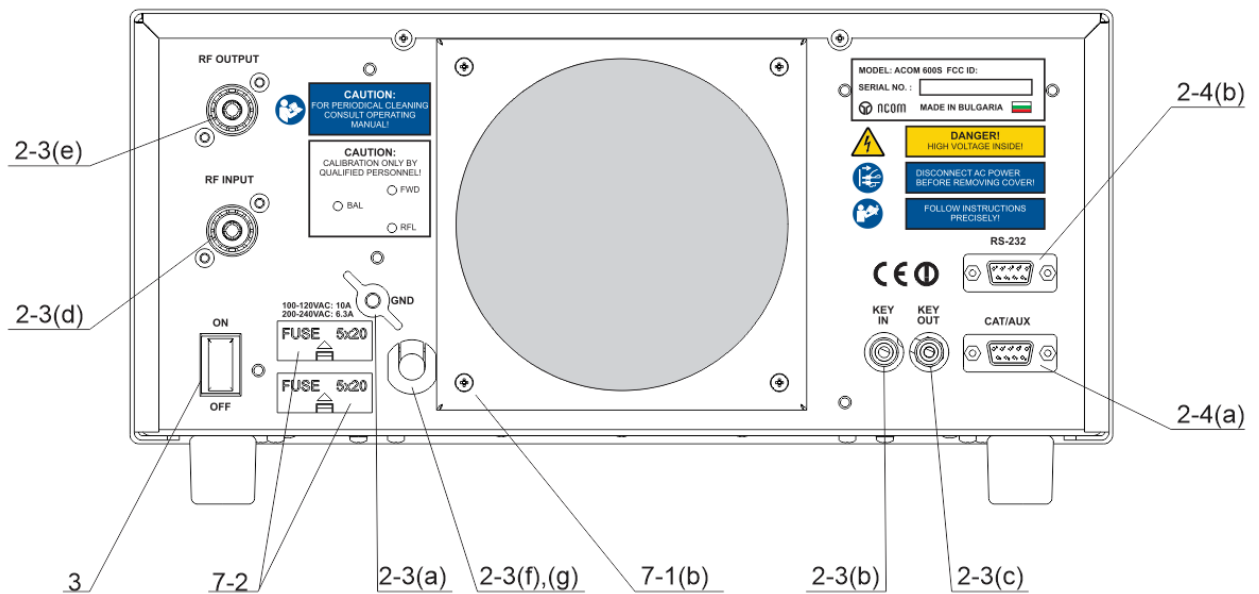

Fig. 2-1 Rear panel connections
The linear amplifier ACOM 600S is apparatus Class I of protection against electric shock, i.e. the third grounding lead of its mains cord (colored yellow with two green stripes) and the grounding stud on the rear panel, marked GND (Fig. 2-1), must be connected to the grounding system of the shack for safe operation.
- a) GND stud - external grounding connection of the amplifier. After having made strictly all check-ups described above, first connect the grounding stud of the amplifier (located on the rear panel and marked GND – Fig. 2-1) to the grounding system of the shack.
Connect a shielded cable from the respective control output of your transceiver, providing “ground on transmit” (PTT), to the KEY-IN input on the amplifier rear panel (RCA PHONO jack socket – Fig. 2-1). Use a standard “RCA PHONO” jack plug for connection to the amplifier.
If your amplifier has only one mounted mains fuse (Fig. 2-1 / S. 7-2), it is suitable **ONLY** for power mains networks of the type 0-220/240VAC, which are standard in the EU.
For control of the amplifier through the CAT/AUX interface you need a special cable between the transceiver and CAT/AUX connector (type HD-15) on the rear panel of the amplifier – Fig. 2-1. Such a cable can be supplied as an option along with the amplifier or you can buy it from your dealer additionally, but you can assemble it yourself as well, using information from table 2-1 and your transceiver's manual.
After having mounted and connected the amplifier according to the instructions in Section 2 INSTALLATION and have followed all requirements, check whether mains switch on the rear panel is in turned-off position – in Fig. 2-1 the rocker of the POWER ON switch must be protruding from the side of the “ON” inscription. Afterwards insert the mains plug of the amplifier into the mains outlet prepared for it. For now the amplifier remains turned off.
Now you can put the mains switch on the rear panel in a turned-on position, pushing its rocker so that it sinks from the side of the “ON” inscription (Fig. 2-1). This will activate only the low-energy (waiting) mode of the power supply and will illuminate the red LED above button ON/OFF on the front panel, while the main power supply is still inactive and the display is dark.
- LED indicator above the ON/OFF button. Glowing only of the red LED indicator above the ON/OFF button at a dark display shows that mains voltage is fed to the plug, the POWER ON switch on the rear panel (Fig. 2-1) is in a turned-on position, but the power supply is in its low-energy (waiting) mode (S. 3-1). In this mode activation of the main power supply is expected to start operation with the amplifier.